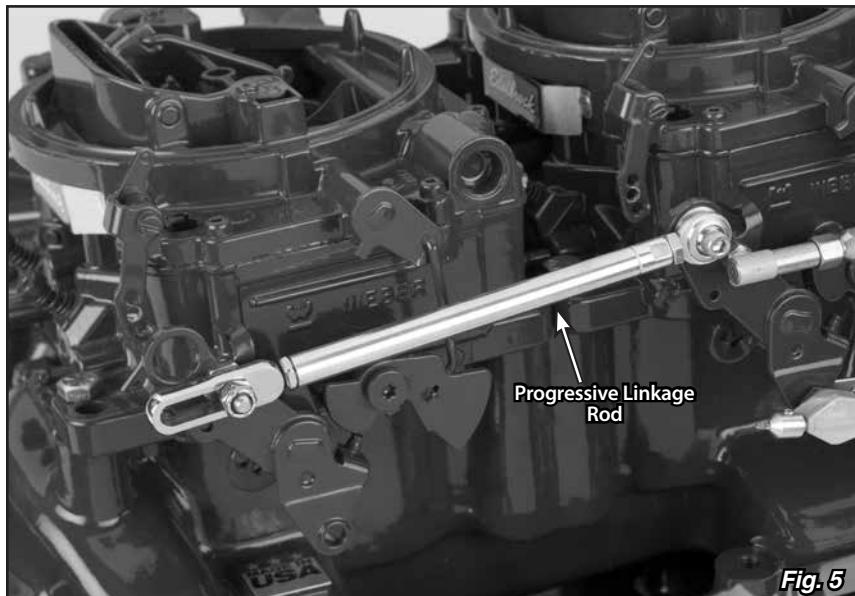

Fig. 5
Step 5: To adjust the progressive linkage rod, start by loosening the #10-32 jam nuts on each end of the linkage rod (**NOTE: The rod end connected to the rear carburetor has left hand threads!**). To achieve wide open throttle on both carburetors, the progressive linkage rod needs to be adjusted so that the progressive linkage stud is against the inner end of the slot in the progressive rod end. **Fig. 5** Rotate the progressive linkage rod counterclockwise to lengthen it, or clockwise to shorten it until there is no slack in the linkage at closed throttle.